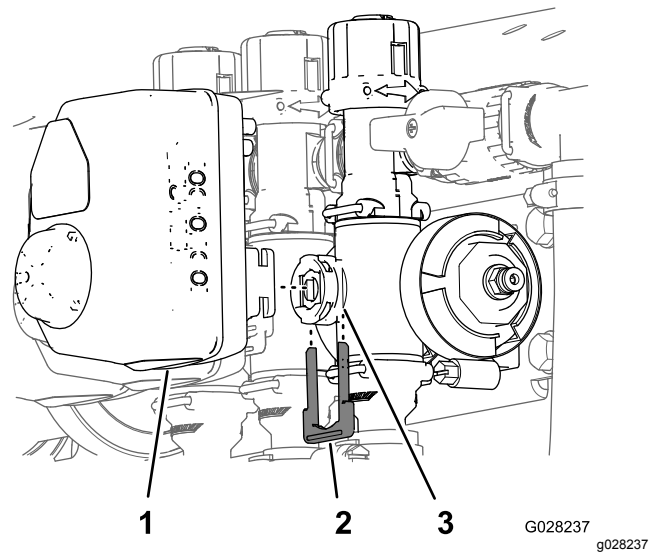

Figure 47
3. Remove the retainer that secures the a actuator to the manifold valve for the rate control, agitation, master boom, or boom section valve (Figure 47).